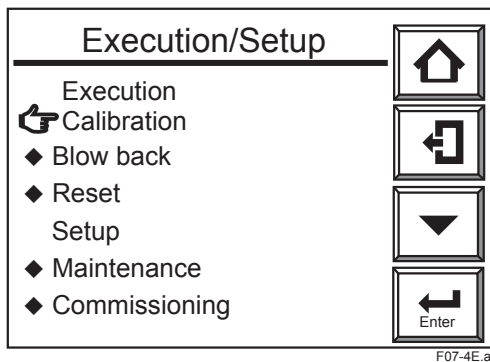
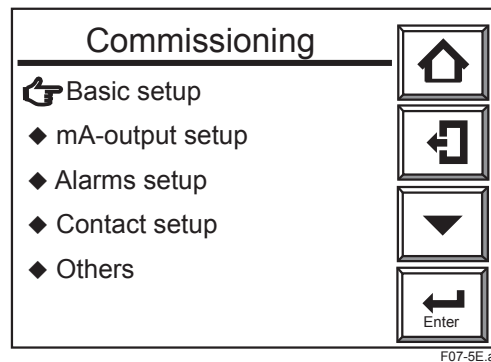

Figure 7.4 “Execution/Setup” Display
Figure 7.5 “Commissioning” Display
- (1) Press the [Setup] key in the Basic panel display to display the Execution/Setup display (Figure 7.4).
- (2) Use the [▼] key to select “Commissioning” and press the [Enter] key.
- (3) In the Passwords display, enter the [Enter] key. If the password is to be set again, enter the new password (for details, see Subsection 8.6.5, “Setting Passwords” later in this manual).
- (4) The Commissioning display shown in Figure 7.5 appears. Select “Basic setup” and press the [Enter] key.